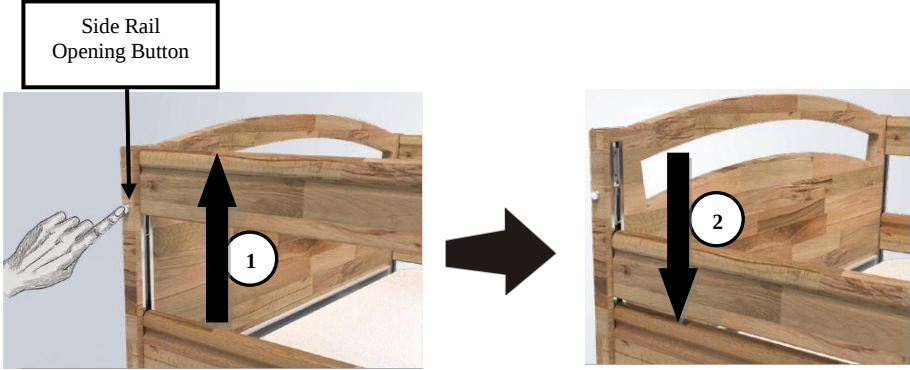

Figure 5. Use of Guardrails
2. If you want to move the side rail upwards, lift the side rail upwards as shown by arrow number 1 in Figure 5 and ensure that it fits into its slot. If you want to move the side rail downwards, lower the side rail downwards as shown by arrow number 2 in Figure 5 and ensure that it fits into its slot.